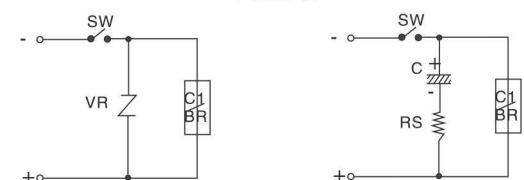

FIG. 6
A. Standard discharge circuit -- mainly with surge absorber, with large resistance value when voltage is low and sharply reduced resistance value when voltage is high, no power loss, good absorption rate and quick release effect. (figure 6)